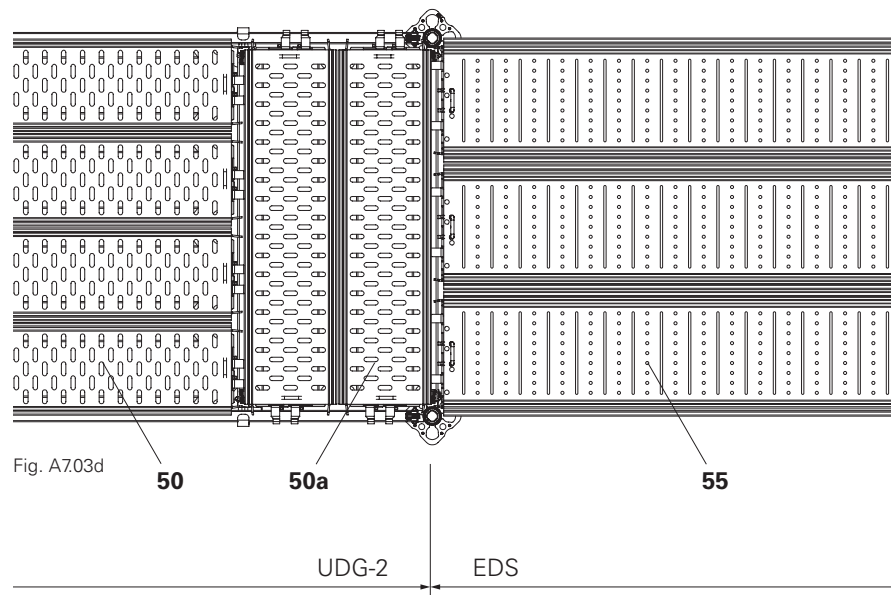

Fig. A7.03d
6. Install Decks EDS (**55**) in the following bay. (Fig. A7.03d)